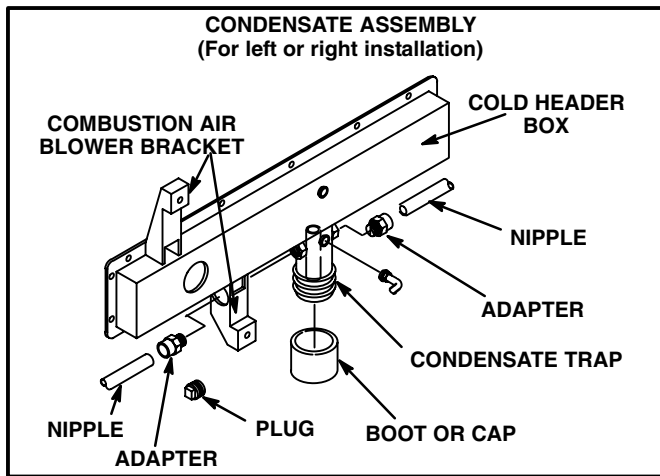

FIGURE 34
- 2 - Connect 1/2" (13mm) plastic pipe plug (provided) in the unused end of the condensate trap. Install plug so that it is sealed water tight yet able to be removed. Do not permanently seal the connection. Teflon tape is recommended to seal joint. See figure 34.